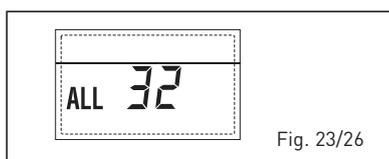

Fig. 23/26
**- ANOMALIE COMMUNICATION CARTE RS-485 EN MODE MODBUS "ALL 33" (fig. 23/27)**